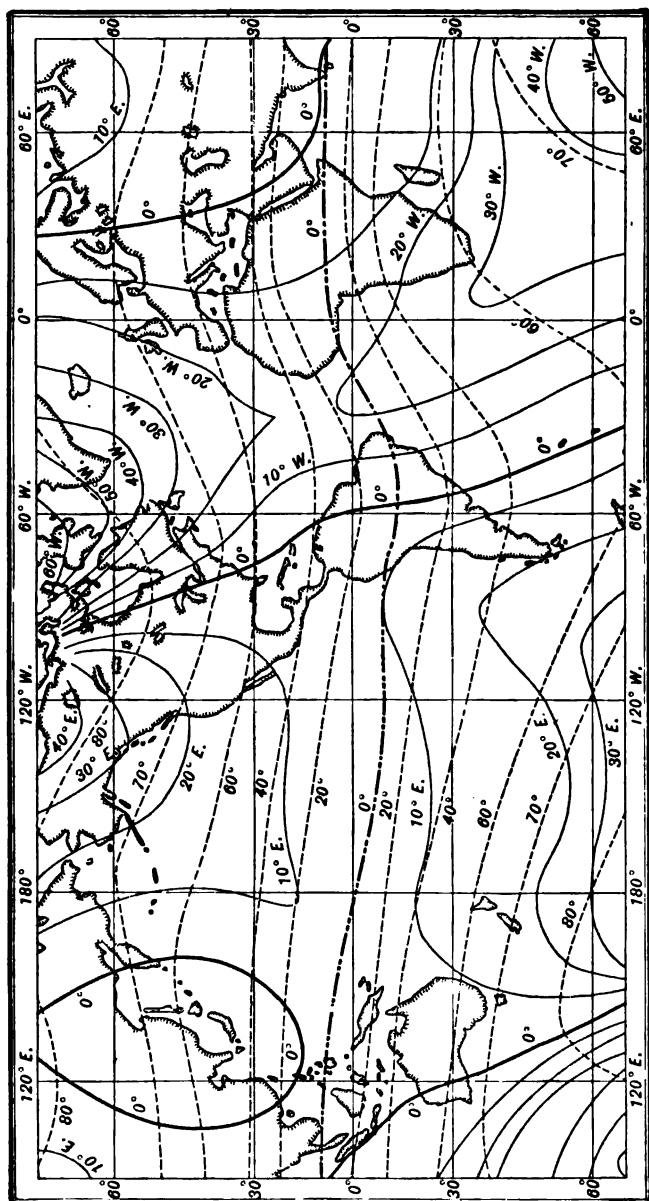

FIG. 184—Magnetic map of the earth for 1910. Isogonic lines — Isoclinic lines.....
**210. Direction of the Earth's Magnetic Field.**—Reference has been made to the fact that the compass does not always point exactly north. This indicates that the earth's magnetic field varies in its direction. Columbus discovered this fact upon his first voyage. The discovery alarmed the sailors since they feared they might come to a place where the compass would be unreliable. This variation is called *declination*. It is defined as the *angle between the direction of the needle and the geographical meridian*. Declination is due to the fact that the geographical and magnetic poles do not coincide. What is meant by a declination of  $90^{\circ}$ ? Lines drawn upon a map so as to pass through places of the same declination are called *isogonic* lines. The line passing through points where the needle points north, without declination, is the *agonic* line. The agonic line is slowly moving westward. It now passes near Lansing, Michigan; Cincinnati, Ohio; and Charleston, S. Carolina. (See Fig. 184.) At all points in the United States and Canada east of the agonic line the declination is *west*, at points west of the agonic line the declination is *east*.